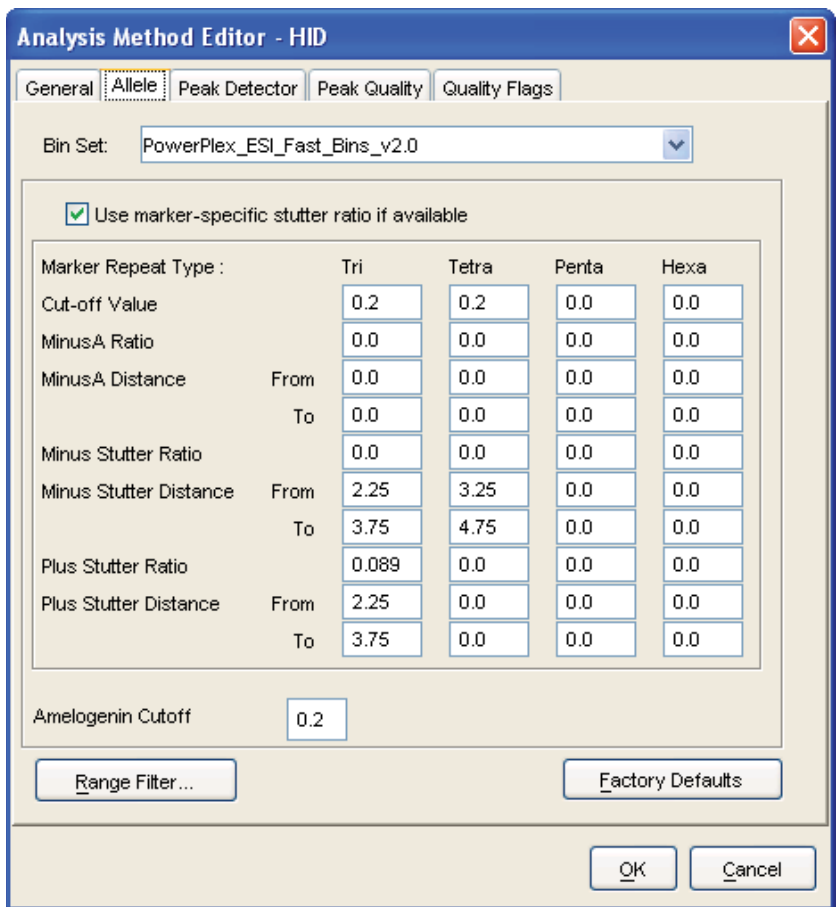

Figure 20. The GeneMapper® ID 'Allele' tab with settings for using a 20% peak filter.
6. Select the 'Allele' tab (Figure 20).
8. Ensure that the 'Use marker-specific stutter ratio if available' box is checked. Doing this will assign locus-specific stutter filters and distances from the imported stutter file. Ensure that the appropriate global filter is applied to this analysis method. For example, for a 20% filter enter "0.20" for the Amelogenin Cutoff and the Global Cutoff Value for Tri and Tetra repeats (Figure 20).
- Enter the values shown in Figure 20 for proper filtering of peaks when using the PowerPlex® ESI 17 Fast System. For an explanation of the proper usage and effect of these settings, refer to the Applied Biosystems user bulletin titled *"Installation Procedures and New Features for GeneMapper ID Software 3.2"*.